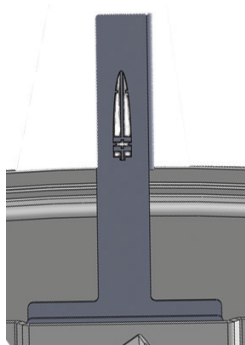

Figure 1.11 – Attach Viewfinder
- 1 Attach the viewfinder by centering the arched notch over the top-middle of the sensor and inserting it securely into position (see Figure 1.11).